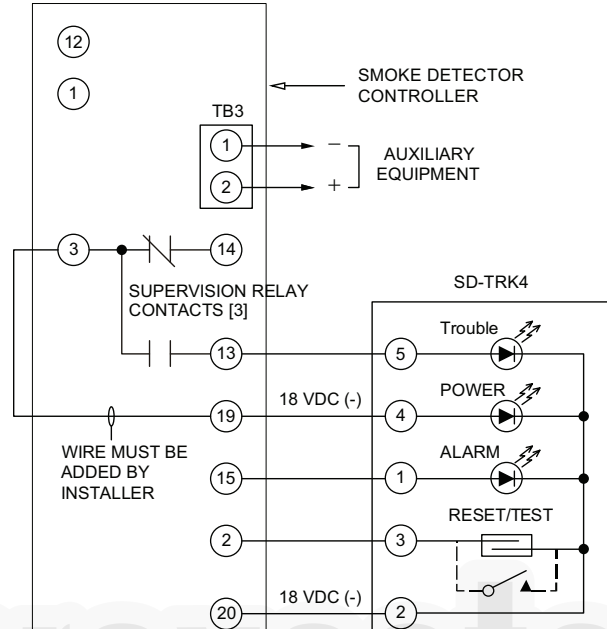

Fig. 31 — Remote Test/Reset Station Connections
The test/reset station dirty sensor test checks the test/reset station’s ability to initiate a sensor dirty test and indicate the results. It must be wired to the controller as shown in Fig. 31 and configured to operate the controller’s supervision relay. For more information, see “Changing the dirty sensor test” operation on page 23.
1. Verify that the remote test/station is wired as shown in Fig. 31. Repair or replace loose or missing wiring.